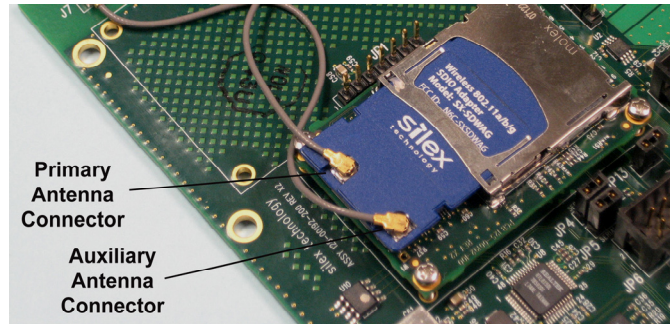

Figure 2 Connecting the Antenna Cable(s) to the SX-SDWAG
3. Connect one end of the antenna cable to the main antenna connector on the SX-SDWAG (see figure 2). If you are using a diversity antenna configuration, connect one end of the second antenna cable to the secondary antenna on the SX-SDWAG.